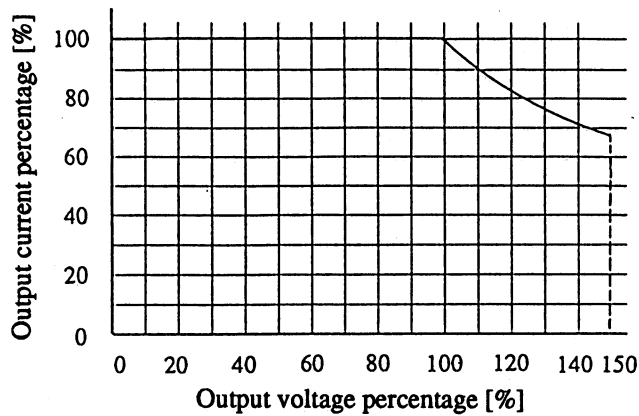

Fig.1
When output phase voltage is 100 to 150 V/200 to 300 V, the output current is reduced by the output phase voltage. Fig. 1
- Based on Figs. 1 and 2, the rated output current is the product of both output current percentages shown. Also, the output current percentage in Fig. 3 takes priority if the value obtained based on Fig. 3 is smaller than the product obtained from Figs. 1 and 2.